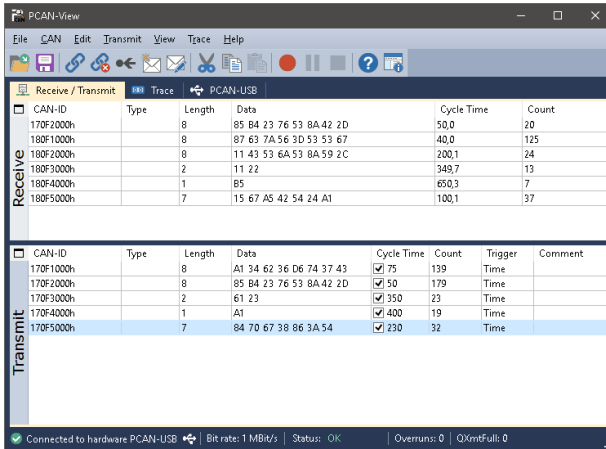

Figure 11: Receive/Transmit tab
6. Confirm the settings in the dialog box with **OK**. The main window of PCAN-View appears (see Figure 11).